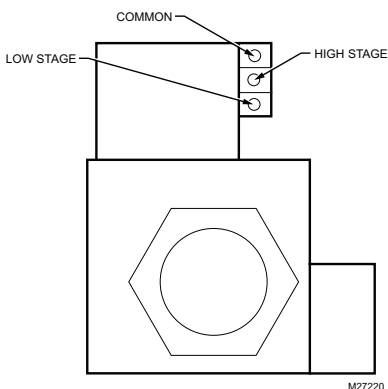

Fig. 5. Typical wiring connections.
3. Using AC voltmeter, measure across terminals C and Low at the gas control. See Fig. 5 for terminal location.